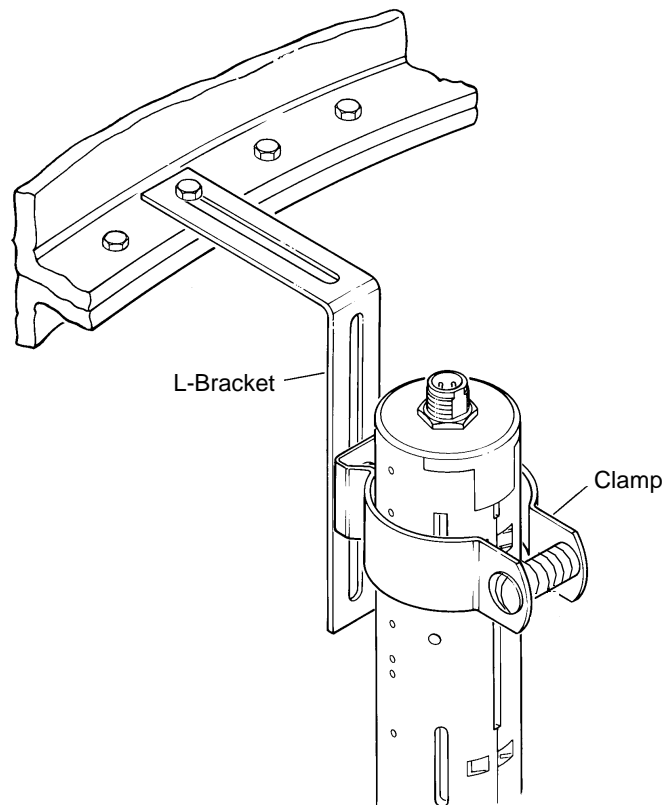

Figure 7. Mounting the Sensor in a Containment Sump.
5. Attach the clamp (Figure 7) to the L-bracket with a 1/4-20 X 3/4-inch bolt.